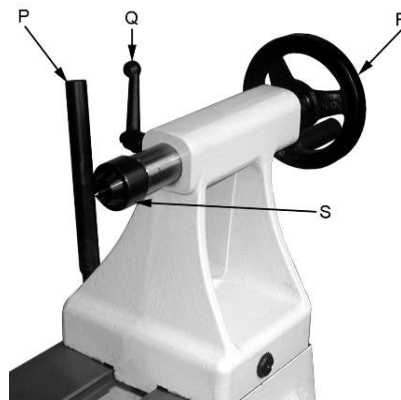

Fig 20
Turn the hand wheel (R, Fig 20) clockwise to move tailstock spindle forward. Lock tailstock spindle with the indexable knob (Q).